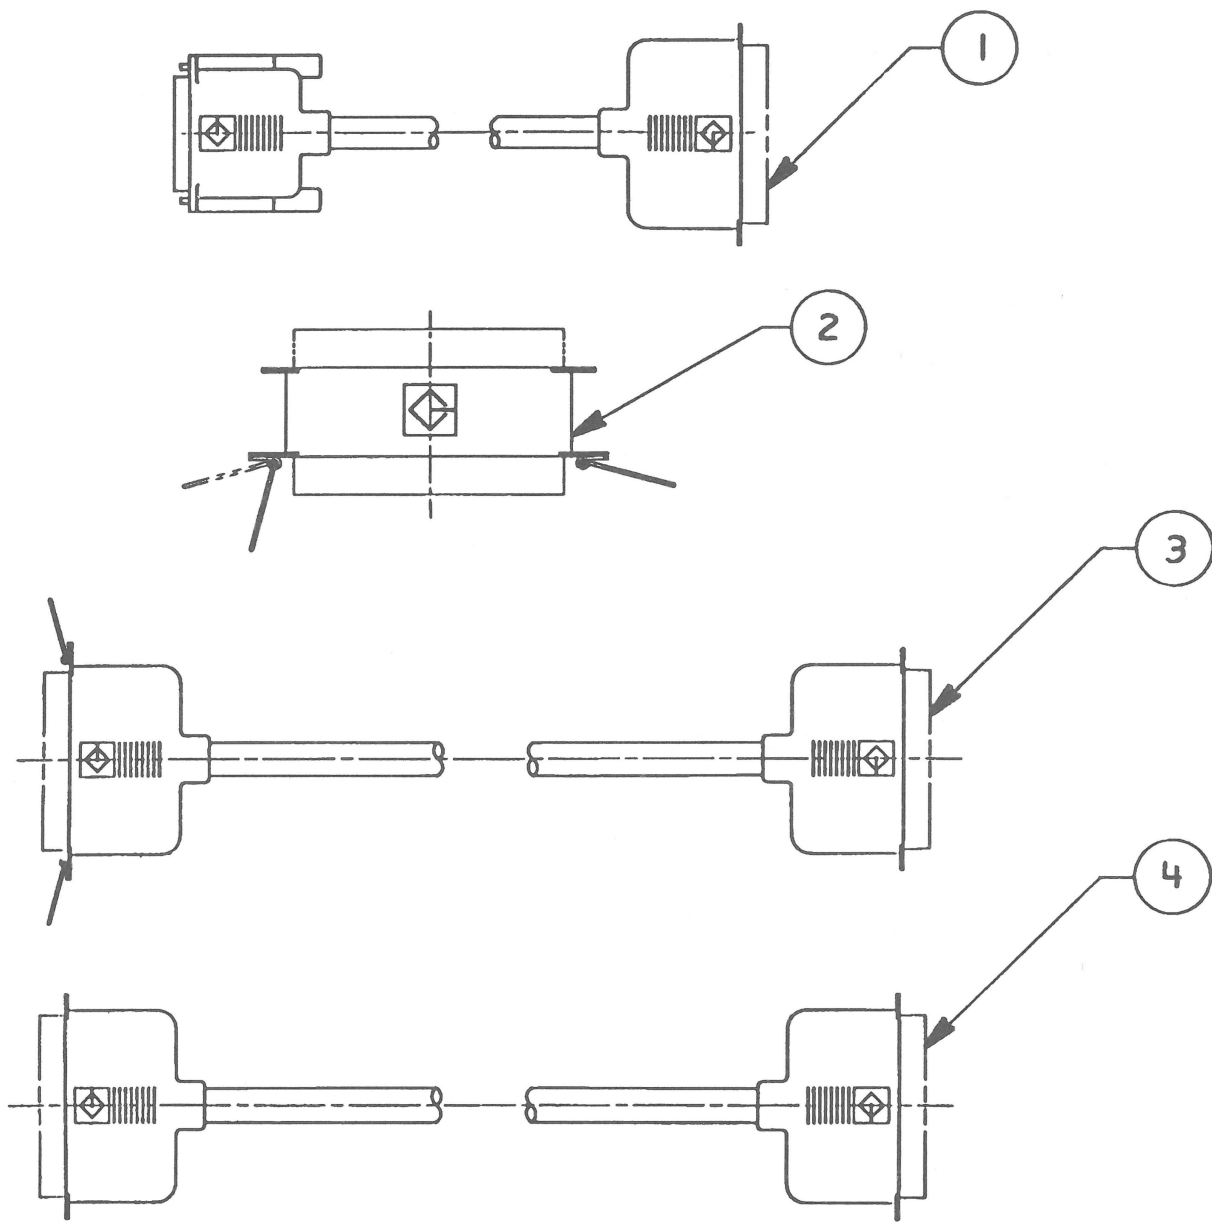

FIGURE 5
- IPL.11 SCSI Hard Disk Drives – Cables (Figure 5)
□ **SCSI HARD DISK DRIVES – CABLES (Figure 5)**